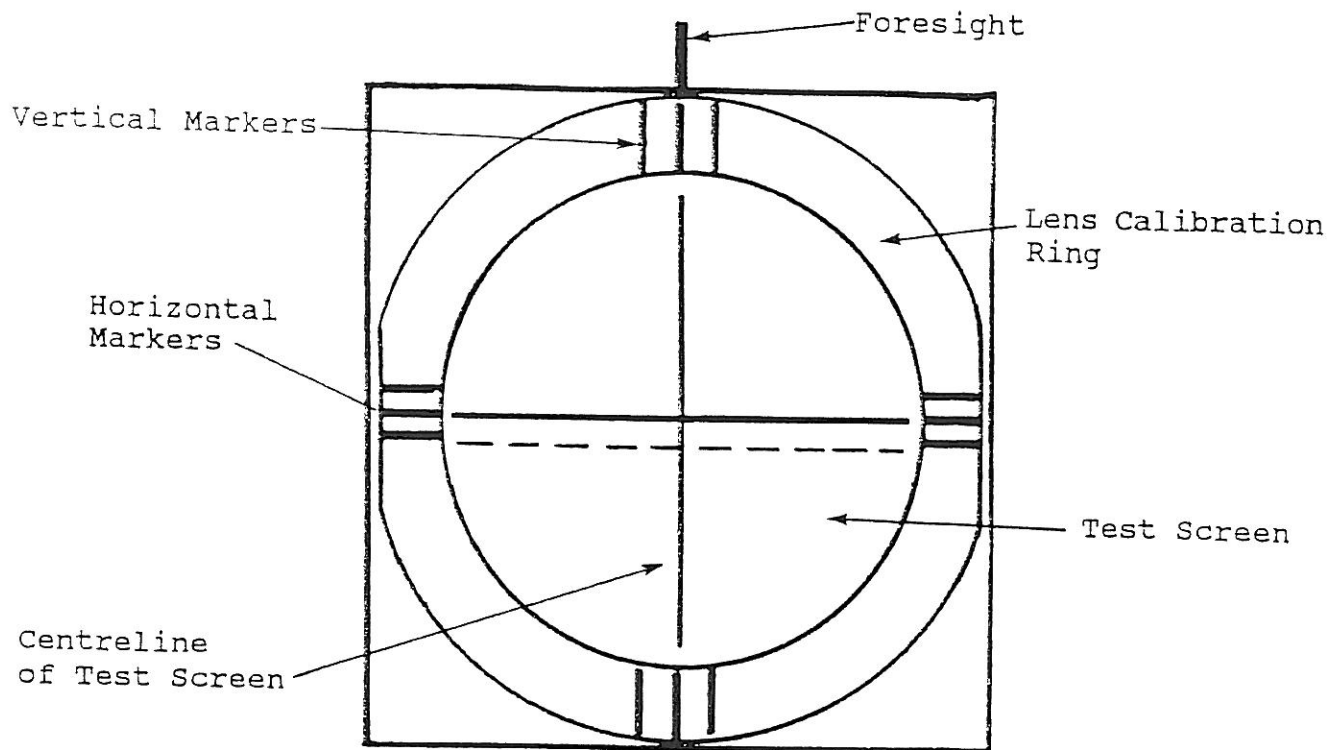

FIG. 9
6. Observe the lens calibration ring and test screen from the front of the Headlamp Aligner - these are illuminated by the beam from the torch. The alignment in the vertical plane is checked by noting that the vertical centreline on the test screen, the centre vertical mark on the lens calibration ring and the foresight are all in line (see Fig. 9).